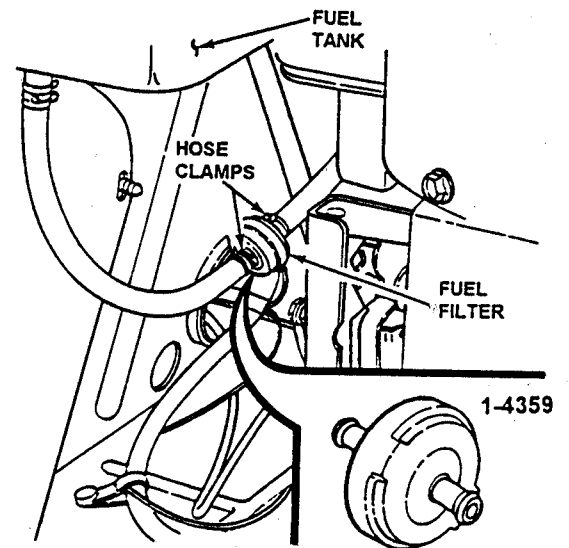

FIGURE 3.11
3. Install a new fuel filter (SNAPPER part number 1-4359). See Figure 3.11.